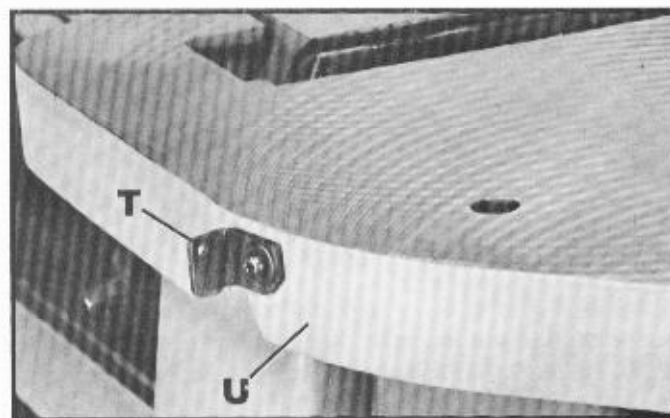

Fig. 11
1. Attach bracket (T) Fig. 11, to the side of the rabbeting ledge (U), as shown, using screw and washer supplied.